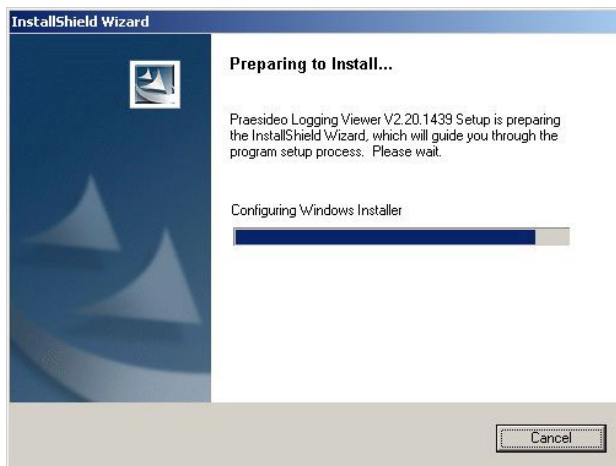

figure 50.1: Logging viewer setup
- 3 Click the *Open* button to start the setup program of the *Logging Viewer*. A screen similar to the one in figure 50.1 appears.